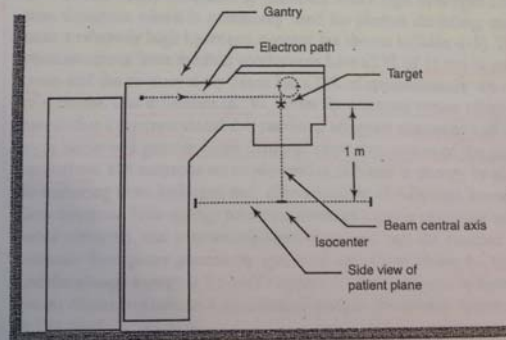

Figure 4-4. Side view of accelerator and the patient plane. The patient plane is a horizontal plane of 2 m radius centered on the beam central axis.
1. For operations producing the maximum leakage radiation, the absorbed dose due to **neutrons and photons**, at any point in a circular plane (patient plane or area) of 2 m radius centered on and perpendicular to the central axis of the beam at the isocenter and outside the maximum beam size, shall not exceed 0.1% of the absorbed dose due to x-rays at the isocenter. Measurements excluding neutrons are averaged over an area up to 100 cm² size. Due to the size of typical neutron dosimeters the neutron dose is averaged over 200 cm². Figure 4-4 illustrates the location of the patient plane or area for a beam directed downward.